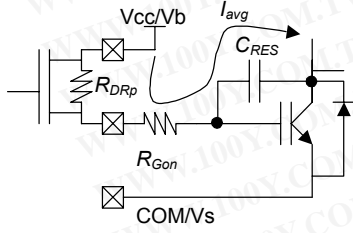

Figure 21:  $R_{Gon}$  Sizing
**Switching-Time:** For the matters of the calculation included hereafter, the switching time  $t_{sw}$  is defined as the time spent to reach the end of the plateau voltage (a total  $Q_{gc} + Q_{ge}$  has been provided to the IGBT gate). To obtain the desired switching time the gate resistance can be sized starting from  $Q_{ge}$  and  $Q_{gc}$ ,  $V_{cc}$ ,  $V_{ge}$  (see Fig. 21):